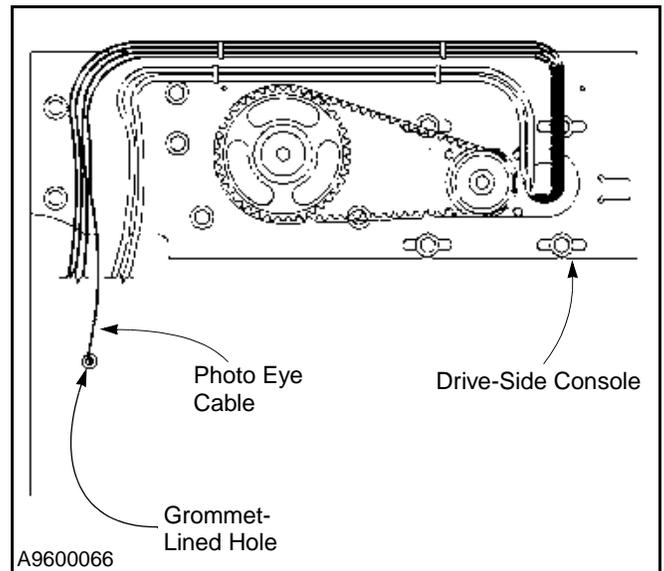

Figure 68
- From the grommet-lined hole, pass the photo eye cable into the drive-side console and over to the door head junction box. (See Figure 68.)